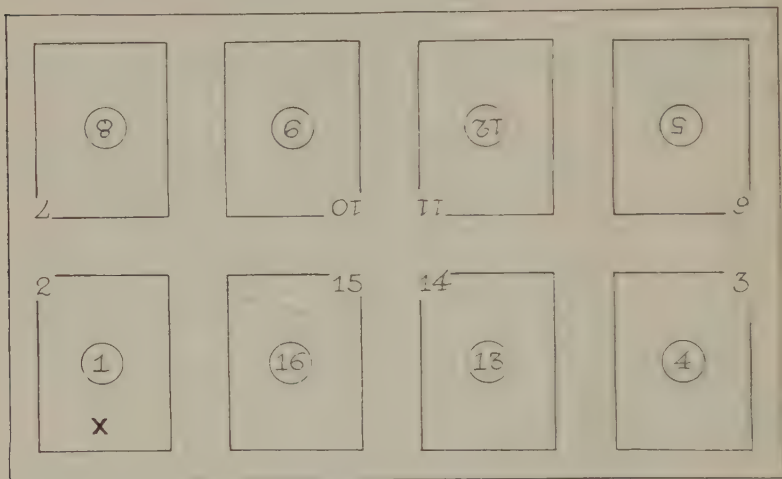

FIG. 253—SINGLE-16 SHEET—CIRCLED FOLIOS ARE ON REVERSE SIDE OF SHEET. X MARKS LOW FOLIO.
6. Examine the flat printed sheets again. If they are "imposed" for single 16 folding they will look like Fig. 253. The figures in the diagram indicate the page numbers, those in the circles denoting the page numbers or folios on the "outer" side of sheet, backing-up those folios shown without circles, on the "inside" of sheet.
9. See if the sheet has 16 pages or 32 pages printed, counting both sides of sheet. If 32 pages are printed (16 pages on each side) it may be a double-16 or a single-32 sheet. If a double-16 sheet it will look like two sets of Fig. 253 and the folios would look like Fig. 254.